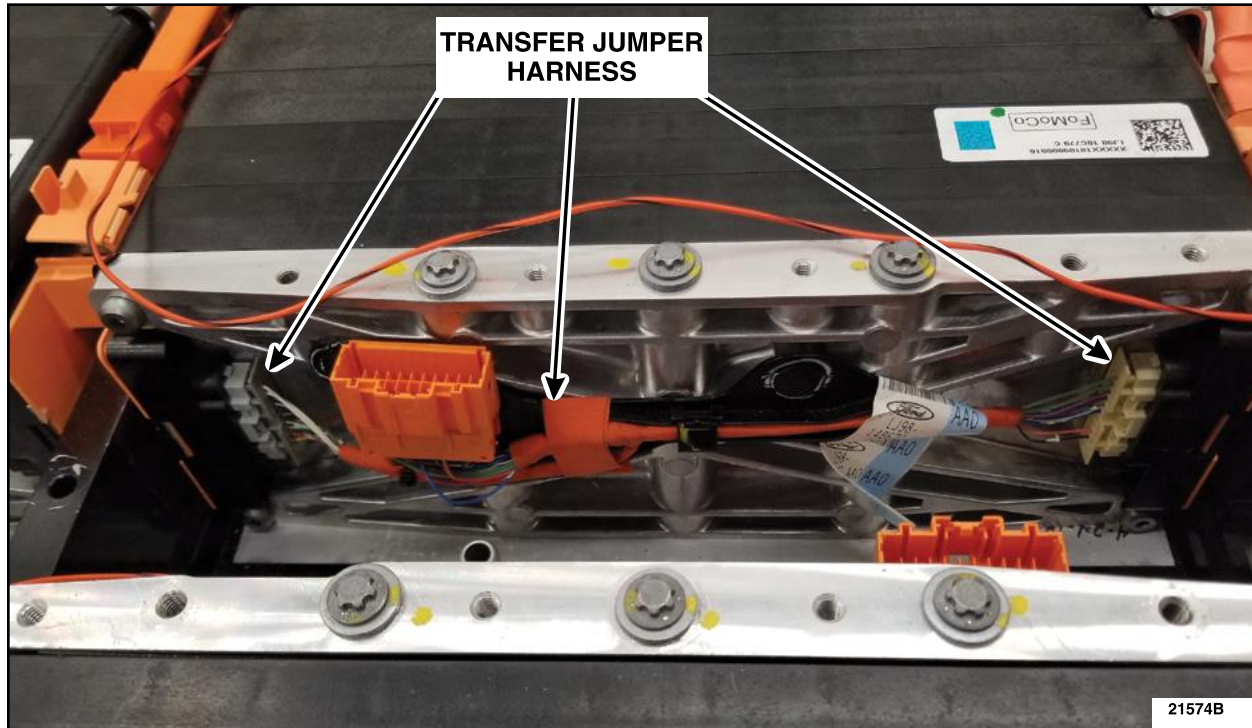

FIGURE 3
6. Transfer the jumper harness from the inboard side of the module to the *new* module. See Figure 3.